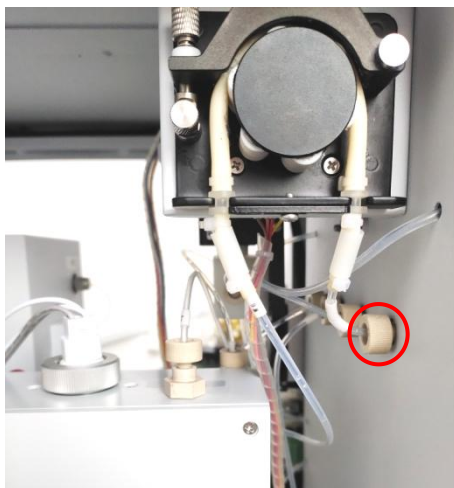

Fig.6.35
4) Loosen the hand screw nut of peristaltic pump (Fig. 6.35), translate it outward to take off the pump tube.
1) Open the door panel on the left side of the instrument and screw down the liquid inlet connector of TC acid peristaltic pump pipe (Figure 6.35)